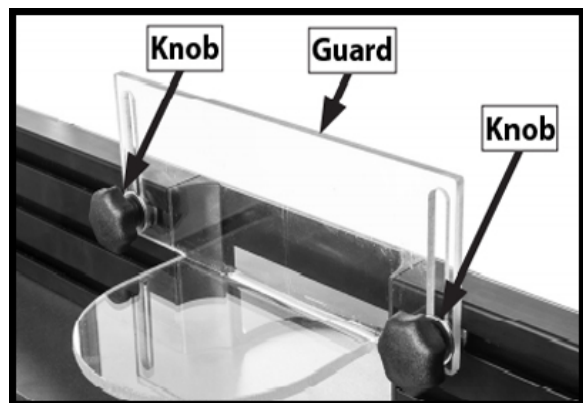

Figure 28
16. Attach the router bit guard to the carriage bolts in the fence with the (2) 1/4-20 plastic knobs supplied (Fig.28)